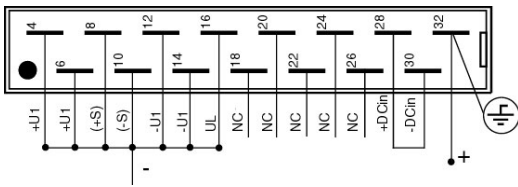
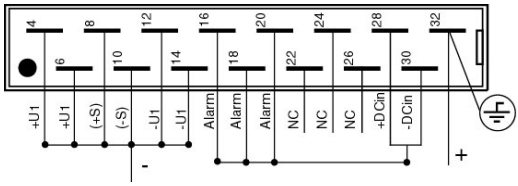

Figure 9 Output to case isolation voltage test.
Figure 10 Output to case with relay alarm isolation voltage test.
5. *Figure 9* Raise the voltage of the isolation tester from 0 to 2000Vd.c. (With option E2 0 to 4000 Vd.c.) Check that the leakage current does not exceed 5 μ A. The voltage should not be applied for more than a few seconds or the Y-capacitors might be damaged. See *figure 10* to include the alarm relay option. The relay outputs are insulated from output/input/case.
5. *Figure 9* Raise the voltage of the isolation tester from 0 to 2500Va.c. The voltage should not be applied for more than one (1) minute or the Y-capacitors might be damaged See *figure 10* to include the alarm relay option. The relay outputs are insulated from output/input/case.